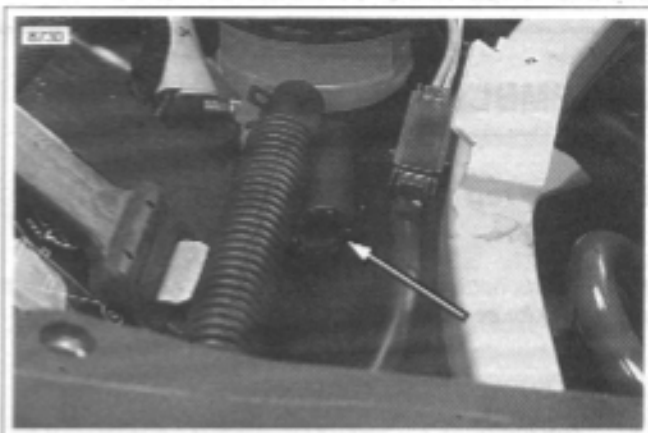

Figure 3-41. Transmission Vent Line
6. See Figure 3-41. Route transmission vent line up through left side of frame exiting under the rear master cylinder under the rider's seat. Install two tie wraps to